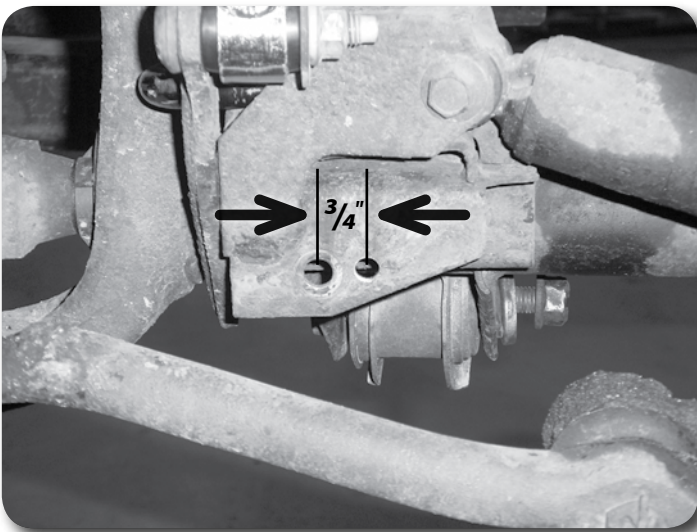

Figure 7
21. Locate the factory track bar mount on the passenger's side of the axle. Measure from the center of the original track bar mounting hole 3/4" toward the driver's side and mark. Drill a 13/32" hole at the mark through the front and back faces of the track bar mount **Figure 7**. This will be the new mounting point for the track bar. Do not install the track bar at this time.